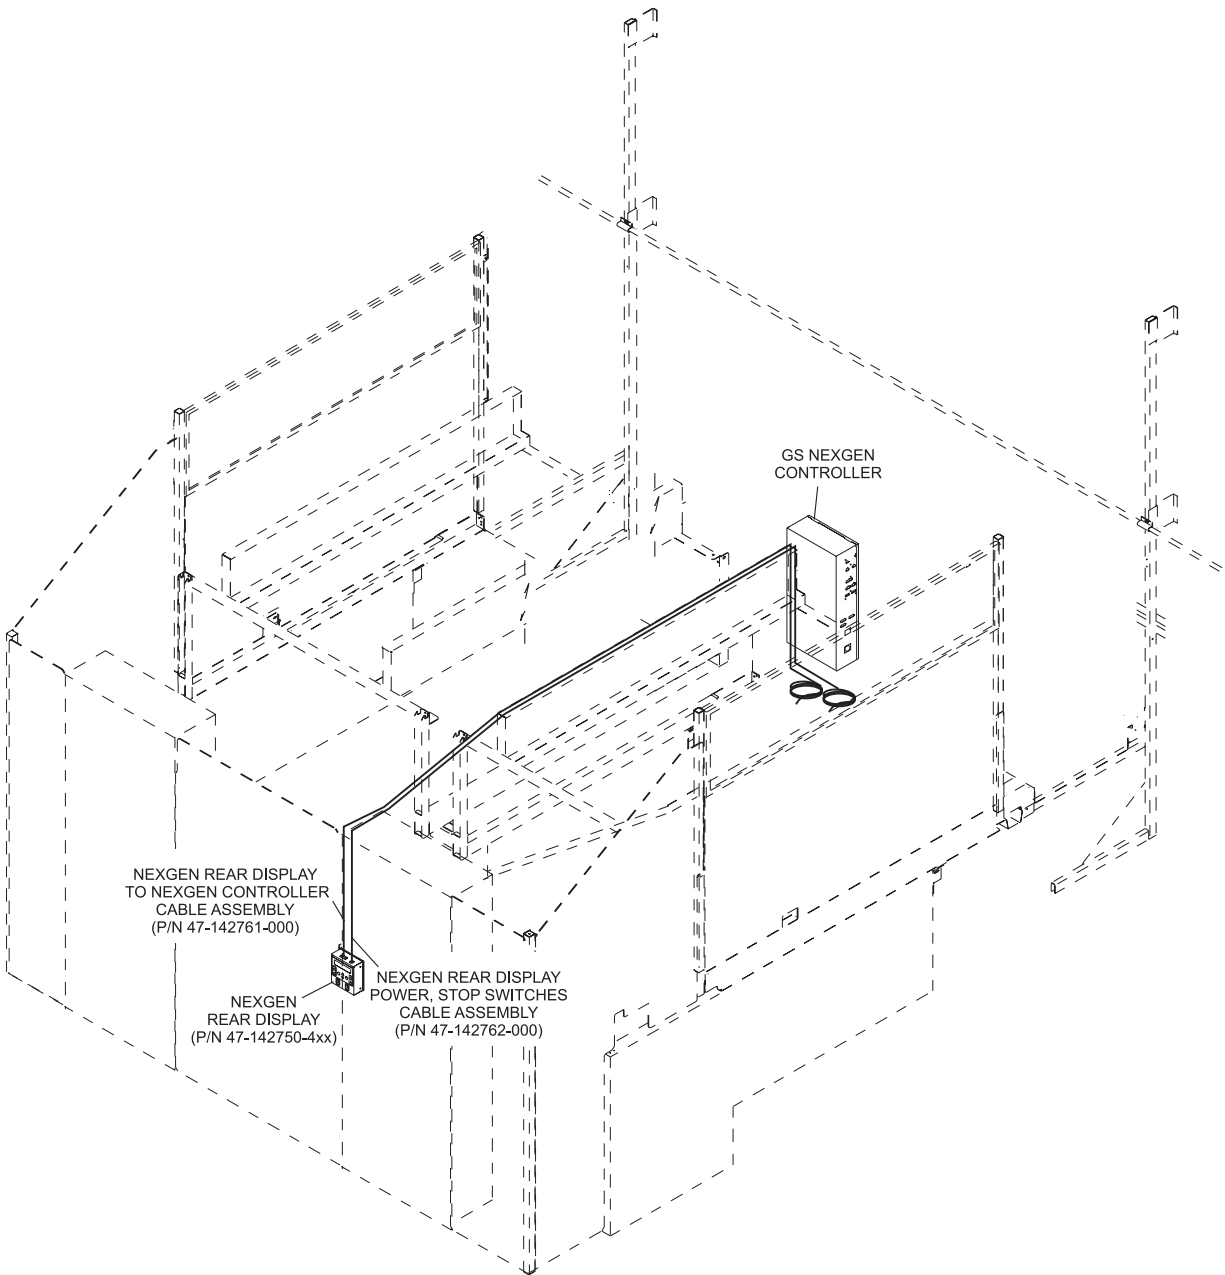

Figure 1
2. Route "GS-X Rear Display Box to Nexgen" cable assembly (P/N 47-142761-000) and "GS-X Rear Display Box Power, Stop Switches" cable assembly (P/N 47-142762-000). Refer to *Figure 1*.